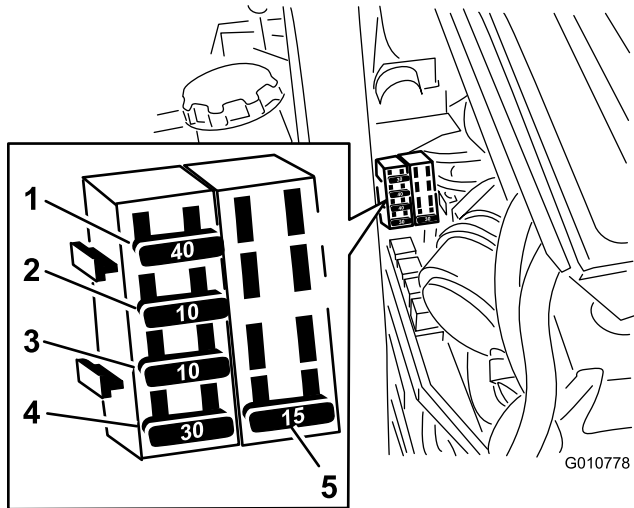

Figure 49
1. Unlatch the engine hood and raise the engine hood to gain access to fuse holder (Figure 49).
3. Install a new fuse (Figure 49).